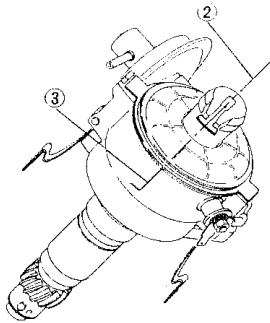

Fig. 3-146
The distributor takes its mounted position correctly only when it is inserted into the distributor seat under a specific condition. The condition is this: Turn over crankshaft to locate the piston at B. T. D. C. 10° (No. 1 Piston being compression stroke), and insert the distributor into the distributor seat, with center ② of distributor rotor lined up with embossed mark ③ of distributor housing, as shown in Fig. 3-146.